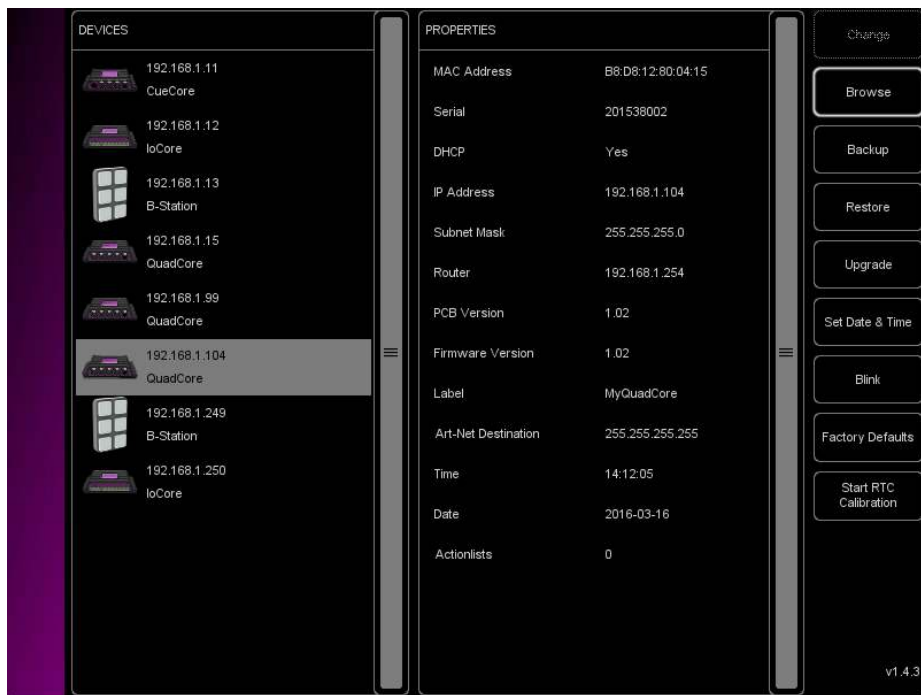

Figure 5.3: vManager
- **vManager** can be used to detect a CueCore2 on the network. Once found, the vManager software (figure 5.3) allows for changing the IP address, subnet mask and DHCP settings.
The following section explain the buttons in the vManger, as seen in figure 5.3.